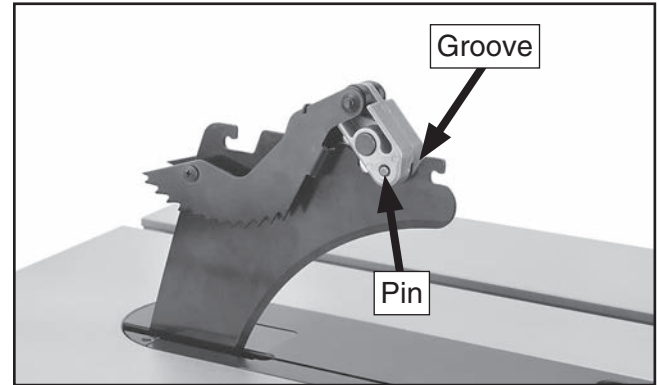

Figure 68. Re-installing pawls.
2. Slide the pin in the pawl block into the second groove from the front of the spreader, as shown in Figure 68.